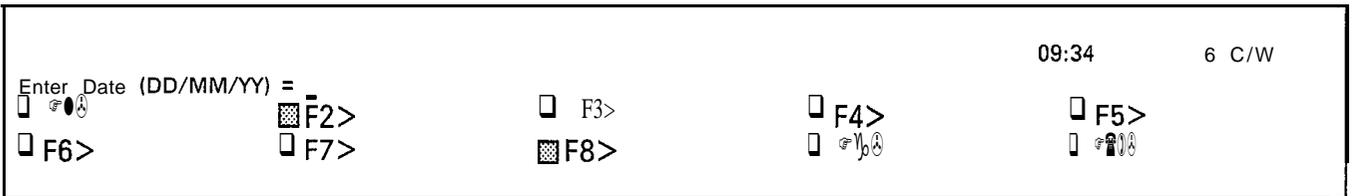
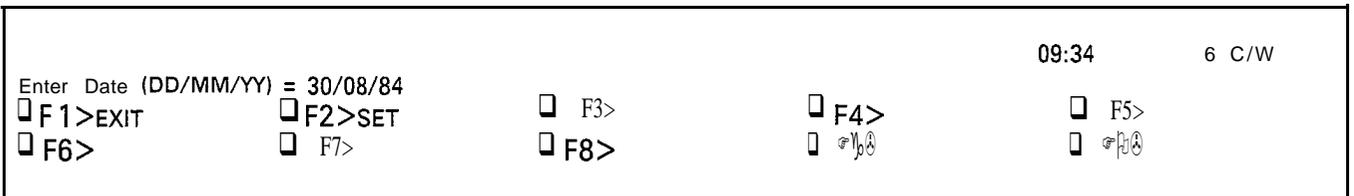

Figure 3-31 Setting the Date
Figure 3-31a Setting the Date
SET DATE: Softkey F3 when pressed will display prompts as shown in Figure 3-31. The Attendant must dial in the 6-digit string representing the date; i.e., 2-digit day (DD), 2-digit month (MM) and 2-digit year (YY). If the entry is correct the prompts will be as in Figure 3-31a. If softkey F2 (SET) is pressed the date will be entered; if softkey F1 is pressed the Attendant Console will revert to the previous state and the entered date will not register.